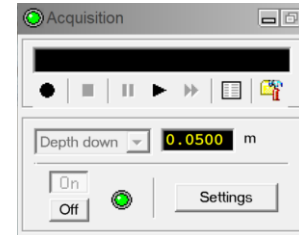

Figure 4-3 Acquisition panel
7. In the **Acquisition** panel (**Figure 4-3**) select the sampling mode (**Depth Down** or **Depth Up** depending on logging direction). Click on **Settings** and specify the corresponding sampling rate. Switch on the sampling (click the **ON** button). Note: The sampling button needs to be set to **OFF** before changing modes. **Time** mode is used for calibration and verifying tool operation at the surface.
8. If desired, complete a **Header**  in the **Acquisition** panel (**Figure 4-3**). Press the **Record**  button, specify a file name, and start the logging.